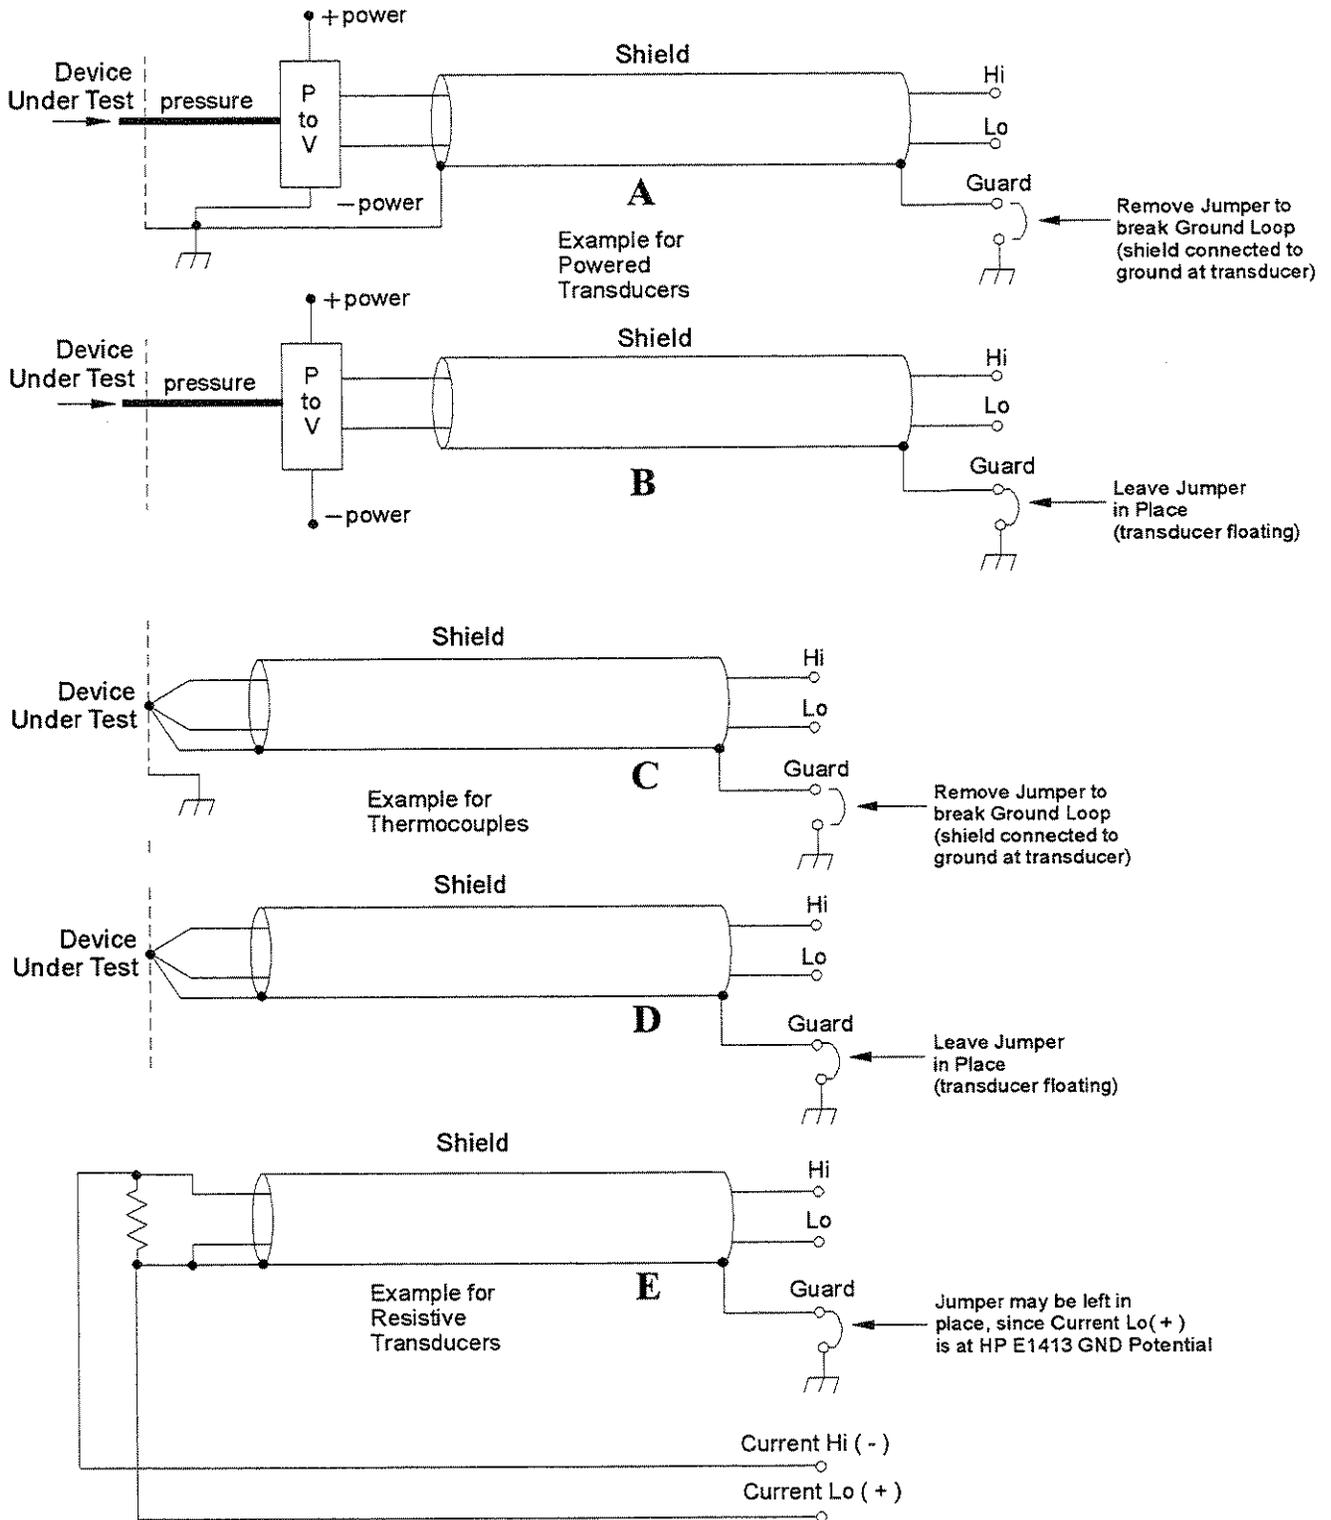

Figure 2-8. Preferred Signal Connections
For any Scanning A/D Converter module to scan channels at high speeds, it must use a very short sample period ($<10 \mu\text{second}$ for the HP E1413). If significant normal-mode noise is presented to its inputs, that noise will be part of the measurement. To make quiet, accurate measurements in electrically noisy environments, use properly connected shielded wiring between the A/D and the device under test. Figure 2-8 shows recommended connections for powered transducers, thermocouples, and resistance transducers. (See Appendix F for more information on wiring techniques).
- a. **Grounded Transducer with shield connected to ground at the transducer:** Low frequency ground loops (DC and/or 50/60 Hz) can result if the shield is also grounded at the terminal module end. To prevent this, remove the GND-GRD jumper for that channel (Figure 2-8 A/C).
- b. **Floating Transducer with shield connected to the transducer at the source:** In this case, the best performance will most likely be achieved by leaving the GND-GRD jumper in place (Figure 2-8 B/D).